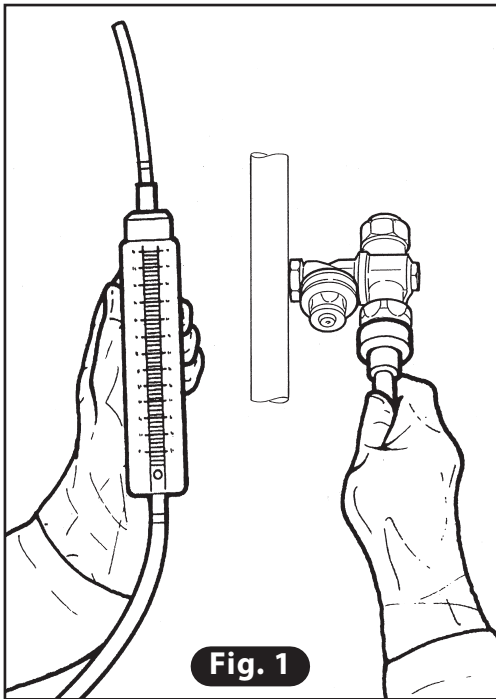

Fig. 1
- To carry out this check, use a graduated gauge that will indicate instantly the amount of product dispensed in l/min. (Fig. 1).